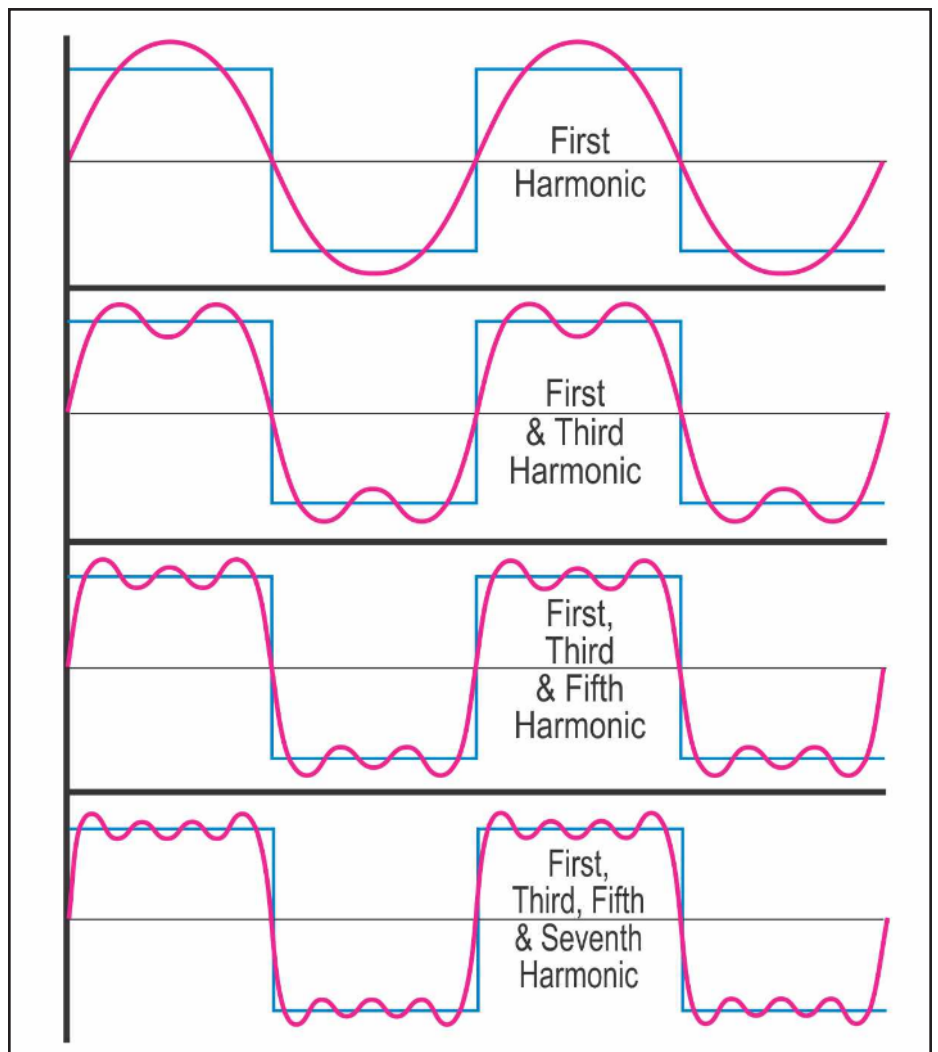

Figure 1 Fourier series development for a square wave.
In studying the vertical sequence of the graphics in Figure 1, it is evident that according to the common acoustic interpretation a square wave would cause a listener to hear several high frequencies. This raises a number of questions:
- If a true square wave was received by the human ear, would the brain first recognize the received wave form and replace it with a sine wave of the same frequency and similar intensity and then substitute the higher frequencies, similar to Figure 1?
Another interesting question is how a square wave sounds to the human ear compared to the results of a Fourier analysis. A perfect square wave which is approximated with a Fourier series shows an overshoot at the corners of the square (Gibbs phenomenon) (Refs. 2-3). Figure 1 shows a square wave which is approximated by a first, third, fifth and